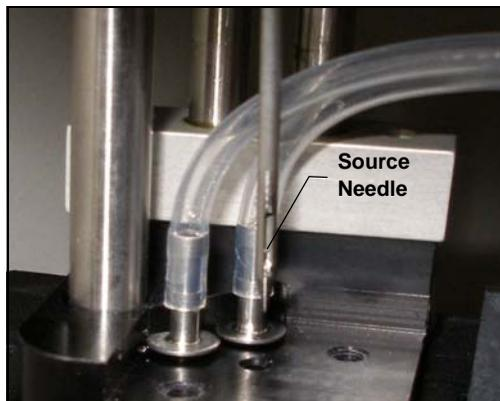

Figure 5-25. Removing the Source Needle from the Needle Block
- Lift up the source needle to remove it from the needle block (see Figure 5-25).